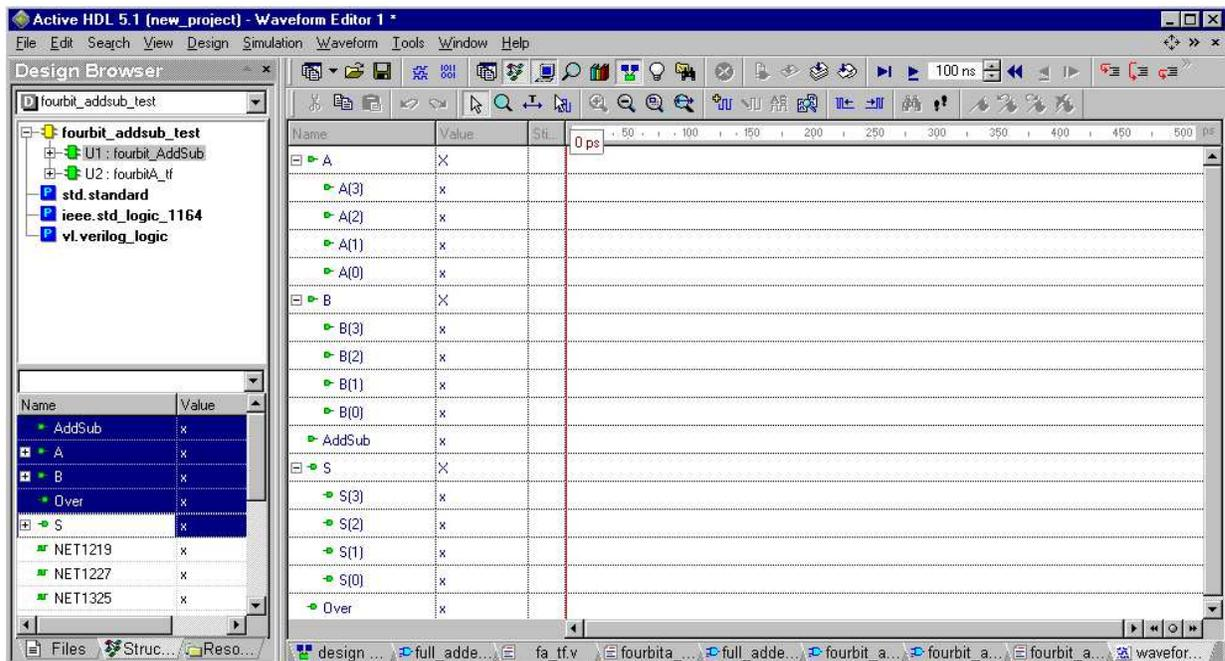

Figure 10
6. Use the same methods you used in Tutorial #1 to add the inputs and outputs from the 4-bit adder/subtractor component. Notice that if you add a multi-bit signal all of its bits will be added to the waveform, or you can add specific bits by expanding the multi-bit signal's list and add only the desired bit. Your waveform should look something like Figure 10.